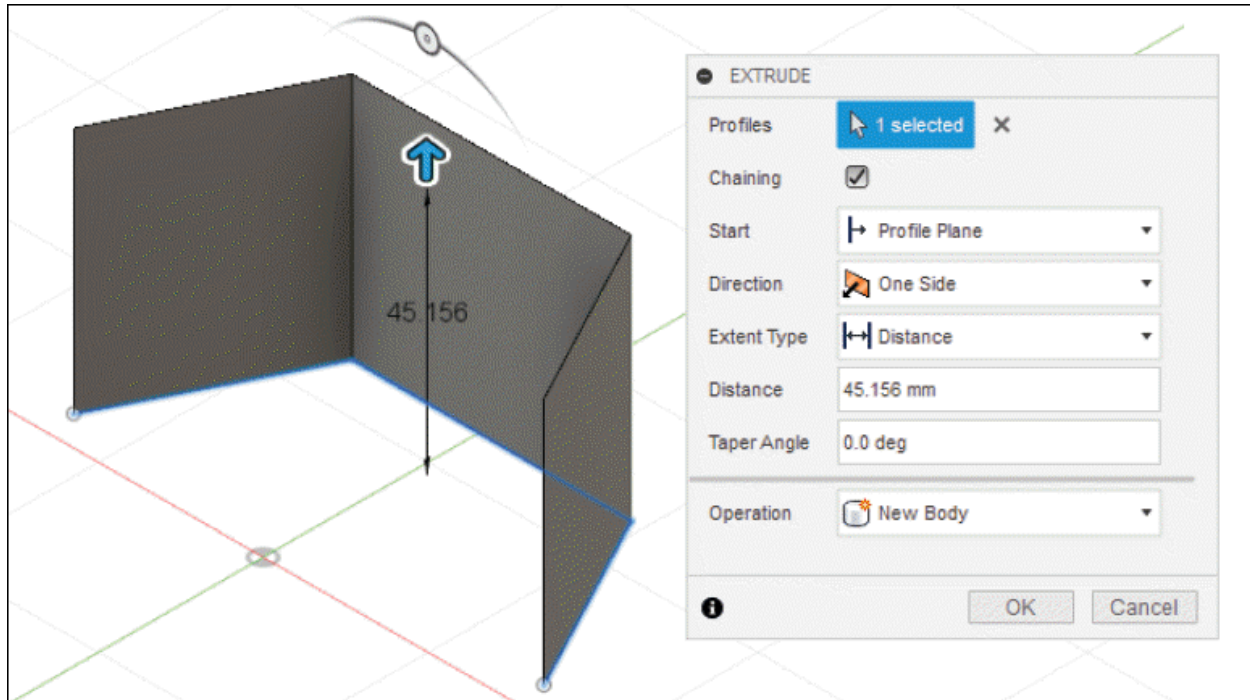

Figure-5. Preview of extrude
- After specifying the parameters, preview of extrude will be displayed; refer to Figure-5.